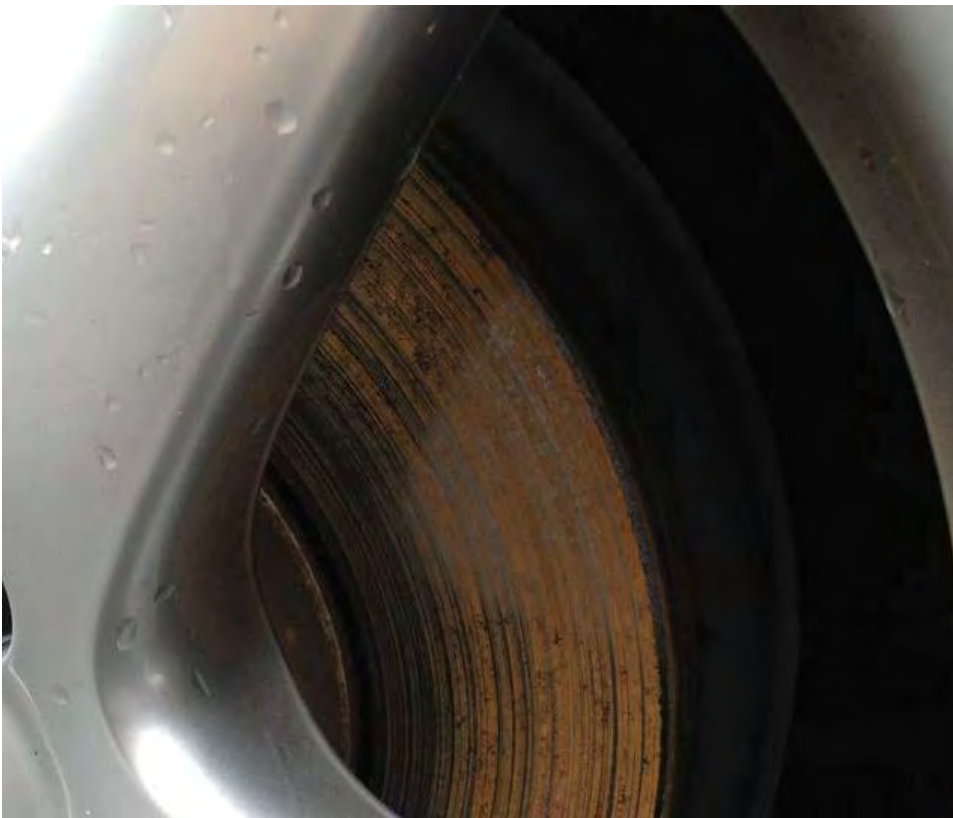

Figure 1
5. Discs are covered in rust. Rust can form when the vehicle has been stationary for long periods of time (Figure 1).